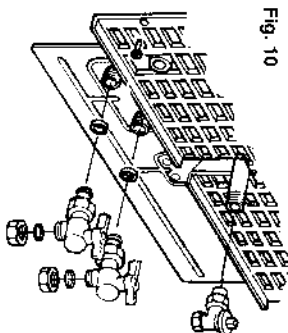

Fig. 10
5.3.4 Loosely fit (hand tight) the valves and fittings using the washers supplied (fig 10)
- 5.5.17 Referring to fig 10 fit the large maintenance clips into position and secure the clip screws.
- 5.6.1 Figs 10 and 14 show the locations of the fittings.